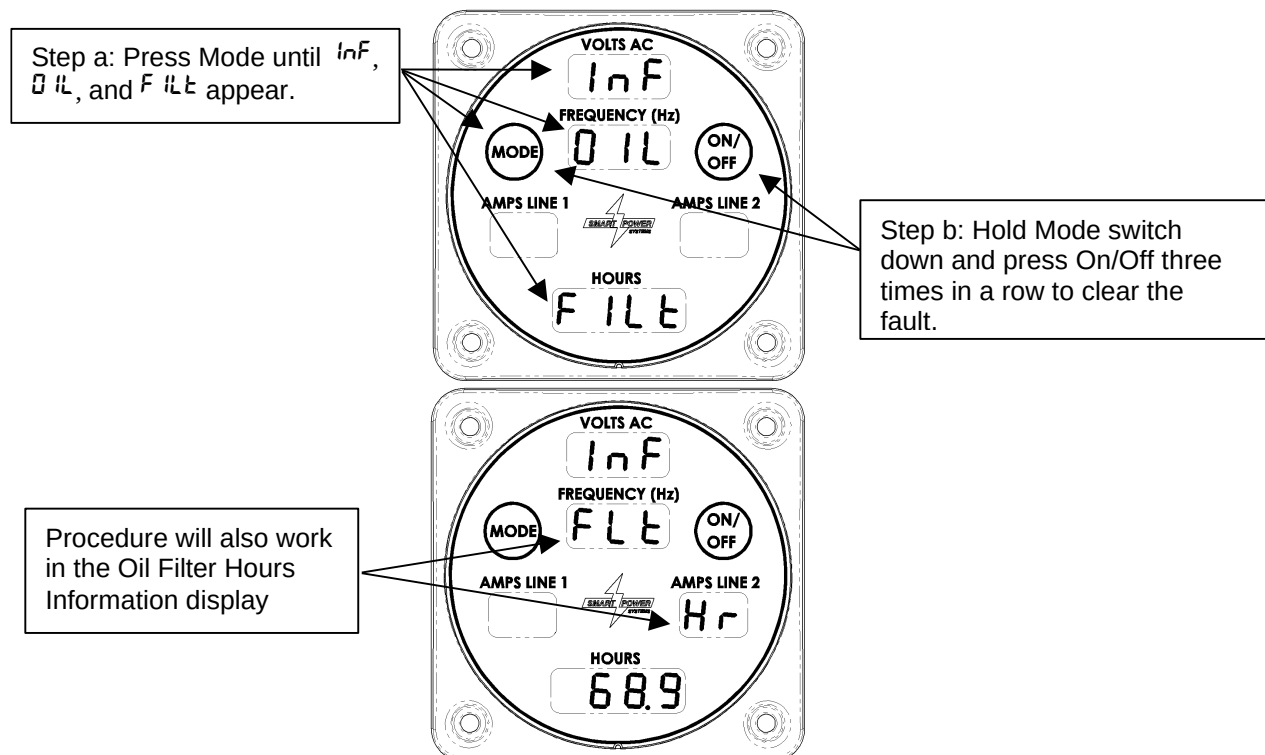

Figure 33 – Oil Filter Service Warning
- a. Press the Mode switch repeatedly until one of the screens shown in Figure 33 appears.